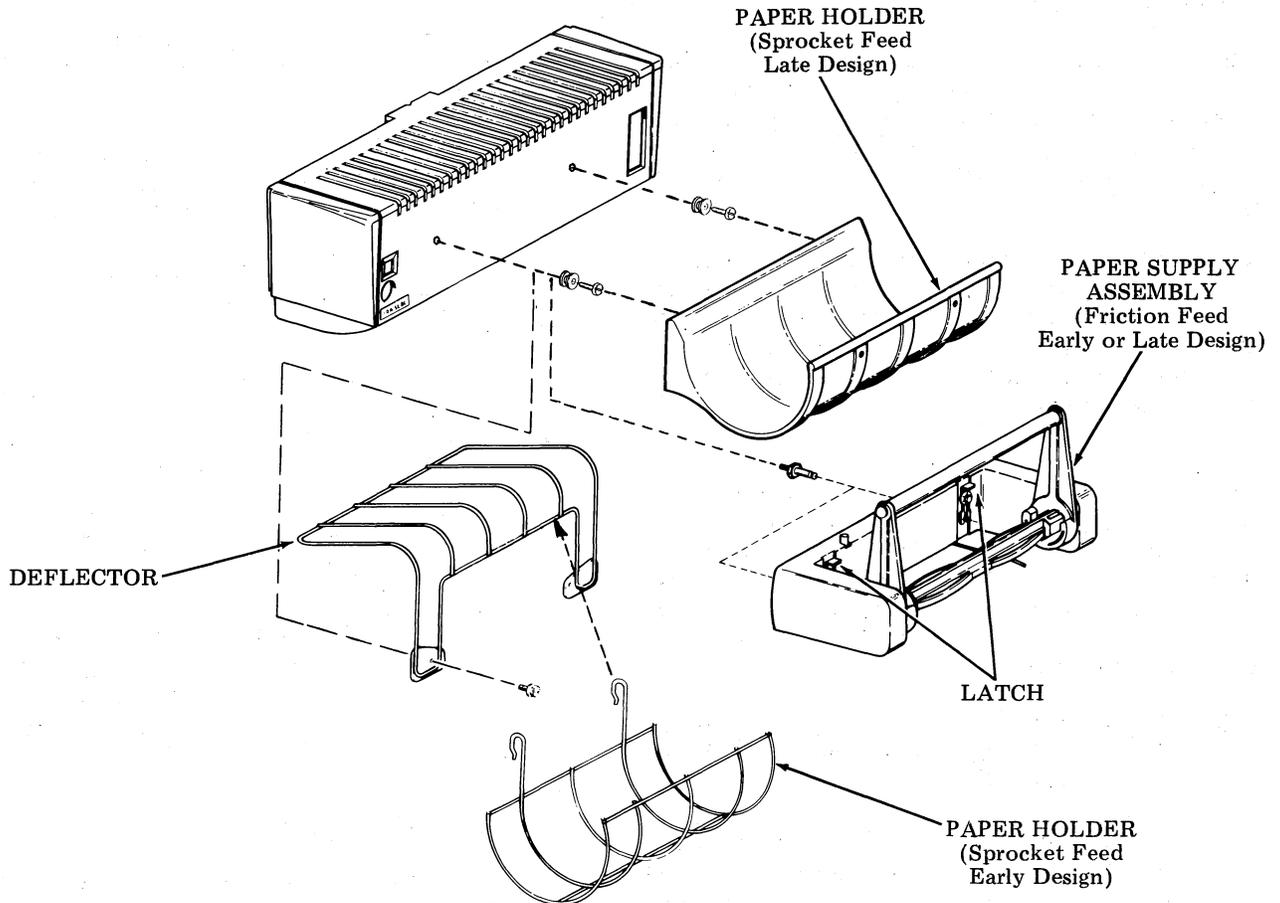

Fig. 6—Paper Holder and Paper Supply Assembly
5.16 Attach the paper holder to the deflector if present, otherwise attach it to the bustle cover by sliding down over the bushings as shown in Fig. 6.